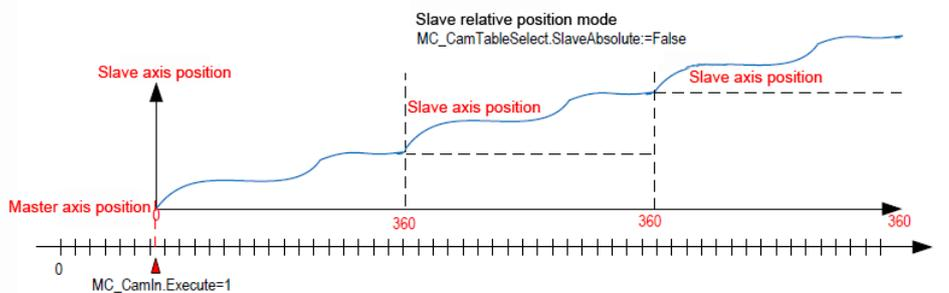

Figure 8-3 Periodic mode
(2) Periodic mode (Periodic:=1): After the cam table cycle is completed, the slave shaft will start the next cam cycle until the user program commands it to exit the cam running state, as shown in Figure 8-3.